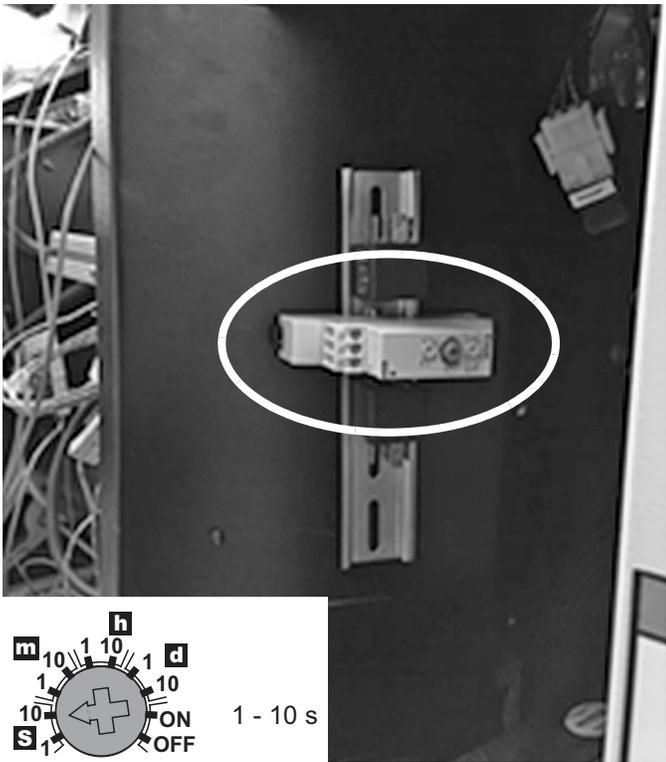

Figure 3-3.
4. Clip timer on to DIN rail (see Figure 3-3)
- Top – timing dial (10 seconds, see inset Figure 3-3)
- Bottom – function dial (D)